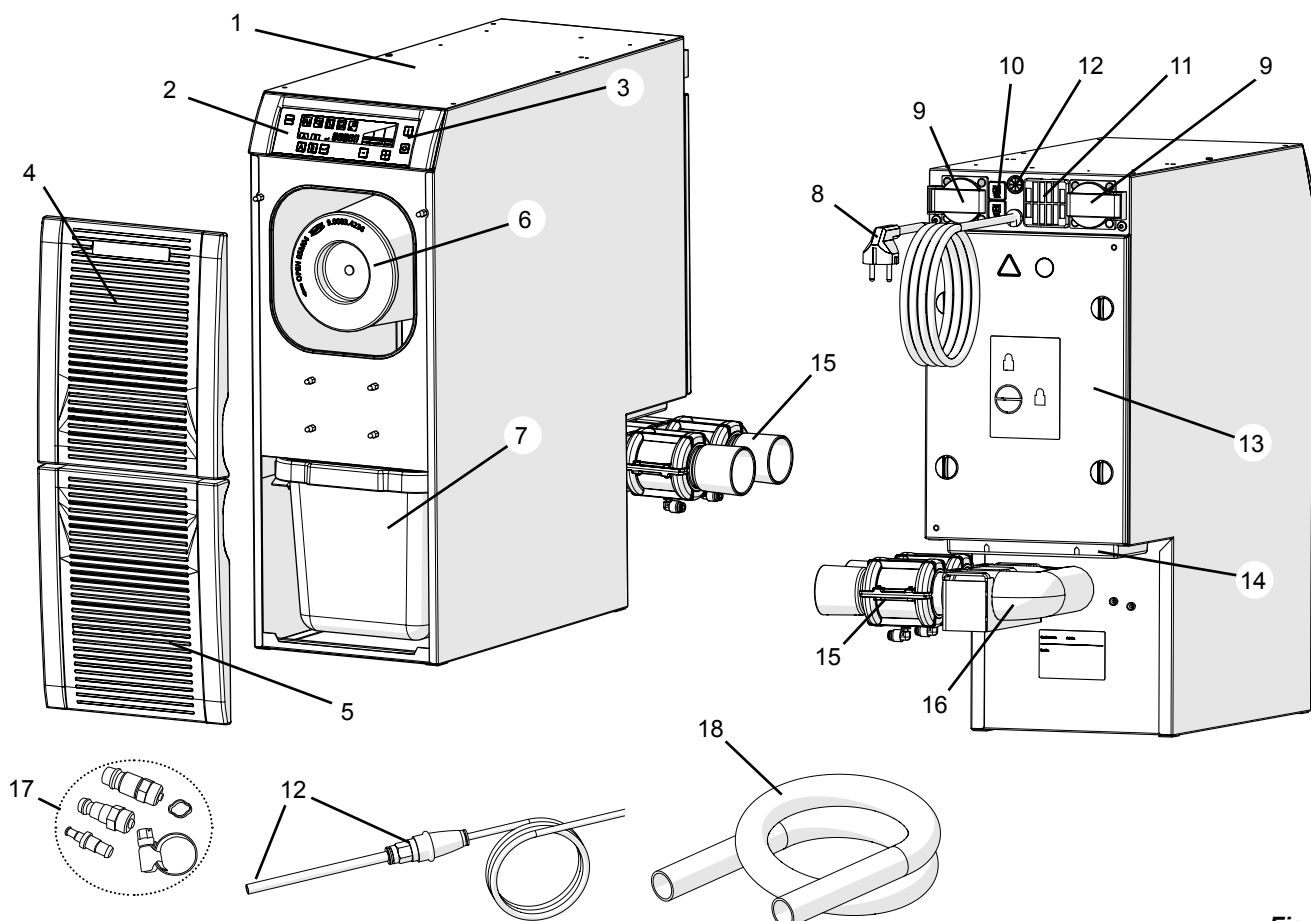

Fig. 1
- The exhaust vent (14, Fig. 1) is not blocked.
- ⇒ Switch the device off at the on / off switch (3, Fig. 1).
- ⇒ Select the appropriate tube connection piece from the connection set (17, Fig. 1) and attach to the end of the tube.